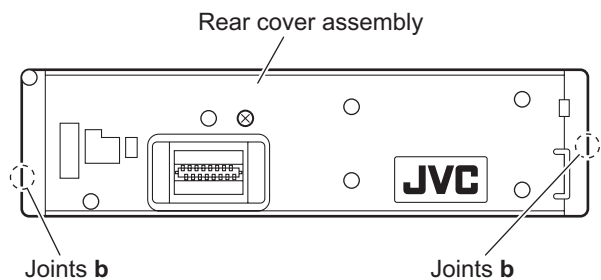

Fig.15
- (2) Release the two joints **b** of the front panel assembly and remove the rear cover. (See Fig.15.)